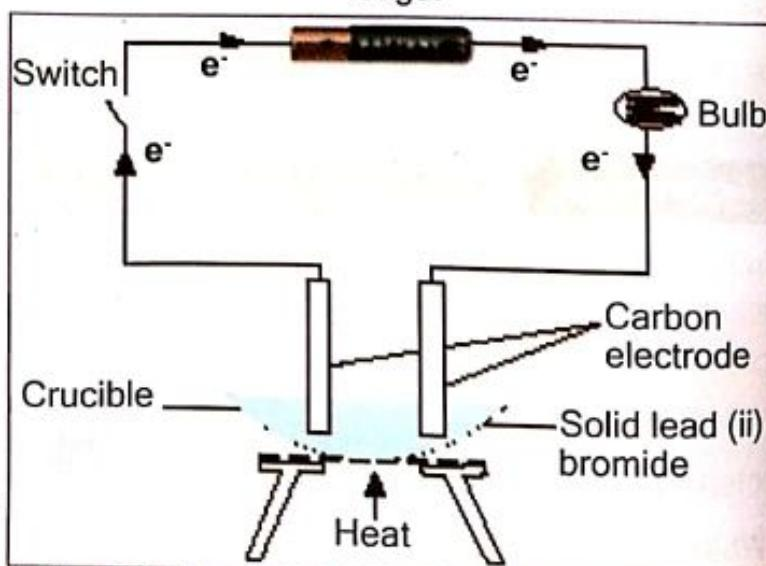

Fig. 1.8: Electrolysis of molten substance
- Fill two-thirds of the crucible with solid lead(II) bromide.
- Dip the two carbon electrodes into the solid lead(II) bromide and connect the batteries by the connecting wires as shown in Fig. 1.8.